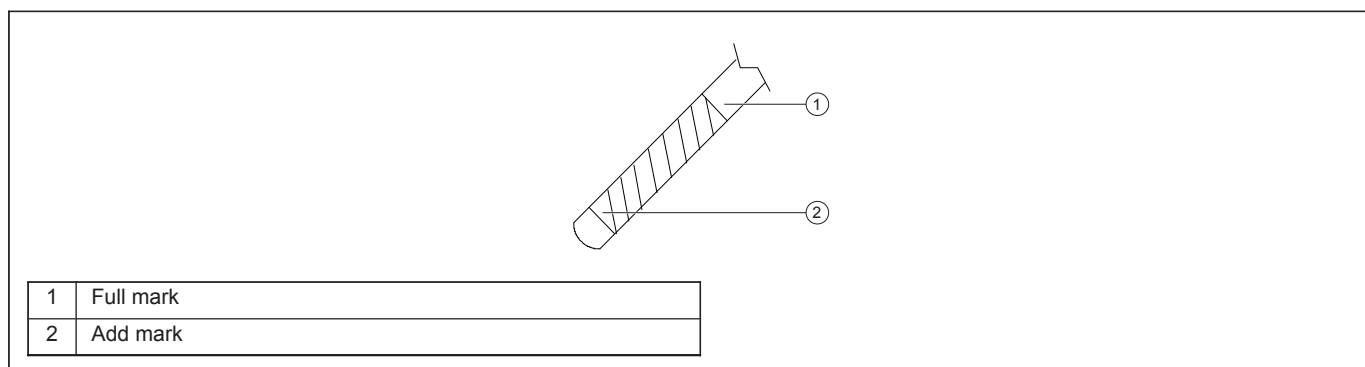

Figure 24: Oil Dipstick
10. Check engine oil level, making sure that the level lies between the Full and Add marks on the dipstick. See Figure 24.